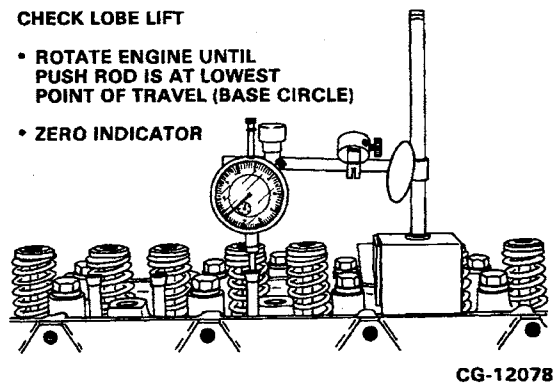

Figure 5.13. Measure Camshaft Lobe Lift — Step One
- Place the dial indicator tip on the top of the push rod and rotate the engine until the push rod is at its lowest point of travel (base circle). Then "zero" the indicator. Refer to Figure 5.13.